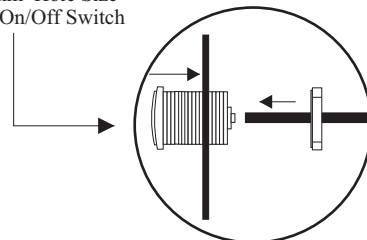

Figure 1
1. Make a hole (37mm) for the On/Off switch as shown (see fig 1). Pre- drill Required.